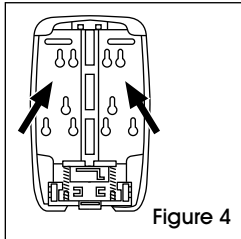

Figure 4
5. Press firmly on back plate for 30 seconds. For maximum adhesion, do not load refill for 24 hours. (See Figure 4)